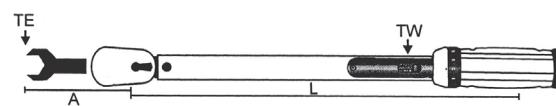

Fig. 4
- When extensions or adapters are used, the torque value changes. An extension increases the effective length of the tool. The new torque performance of the wrench may be calculated with the following formula: $TW = (TE \times L) / (L + A)$. (Fig. 4)